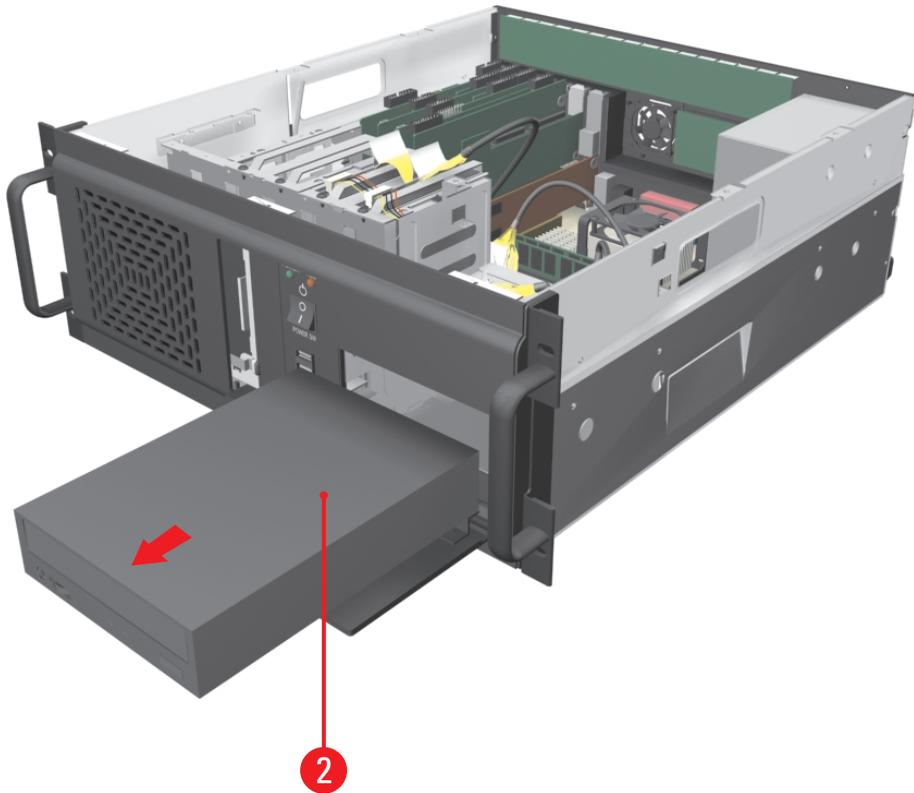

Figure 10. Removing the Existing Optical Drive
2. Gently pull the CD/DVD drive out of the DVR through the front of the unit. Refer to Figure 10.